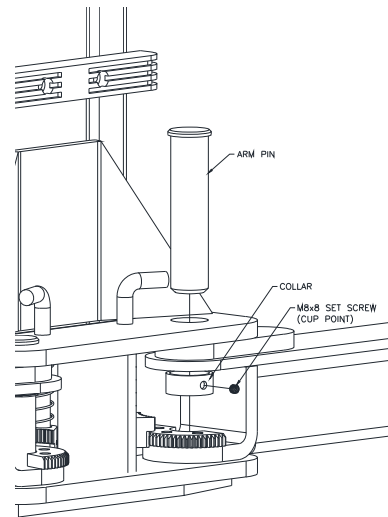

Fig. 10 –Arm Install
- 32) Lubricate the arm pin or carriage arm pin hole with "anti-seize" and install the arms as shown in **Fig. 10**. Once the set screw is finger tight against the arm pin, tighten 1/4 turn with allen wrench.